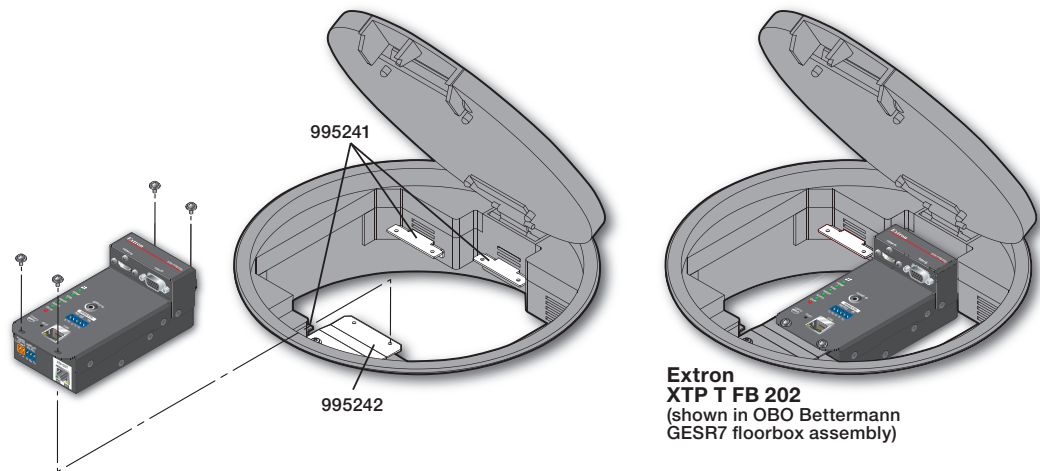

Figure 12. Mounting the XTP T FB 202 into an Ackermann GB3 (OBO Bettermann) Floor Box
3. Using the provided self-threading screws and washers, secure the XTP T FB 202 to the adapter plates (see figures 12 through 15).